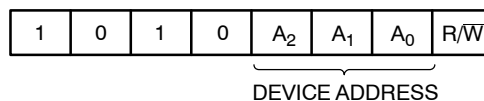

Figure 3. Slave Address Bits
The Master addresses a Slave by creating a START condition and then broadcasting an 8-bit Slave address. For the CAT24C64, the first four bits of the Slave address are set to 1010 (Ah); the next three bits, A₂, A₁ and A₀, must match the logic state of the similarly named input pins. The R/ \overline{W} bit tells the Slave whether the Master intends to read (1) or write (0) data (Figure 3).